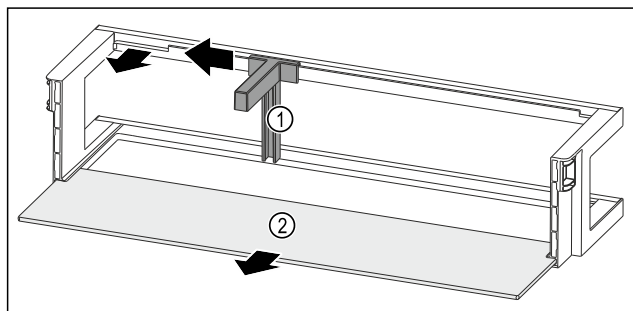

Fig. 138 Door rack with bottle holder and shelf
- ▶ Slide the bottle holder Fig. 138 (1) to the side as far as the recess.
- ▶ Remove the bottle holder Fig. 138 (1).
- ▶ Remove the shelf Fig. 138 (2).